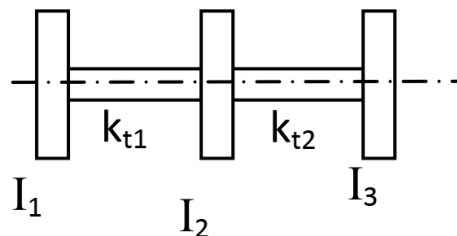

Fig. 3
- Q6** Using Holzer method, determine the natural frequencies of the system as shown in Fig.3. Take  $k_{t1}=k_{t2}=1$ ,  $I_1=I_2=I_3=1$ . (10)